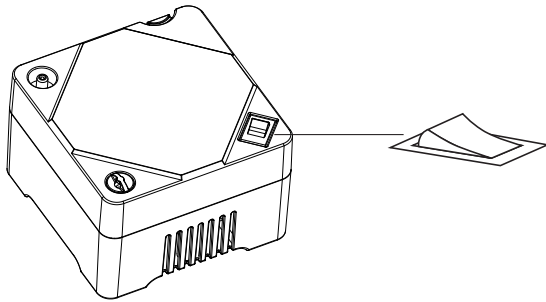

Figure 11
5. When liquid medication is depleted, turn the power switch to "OFF" (Fig. 11).